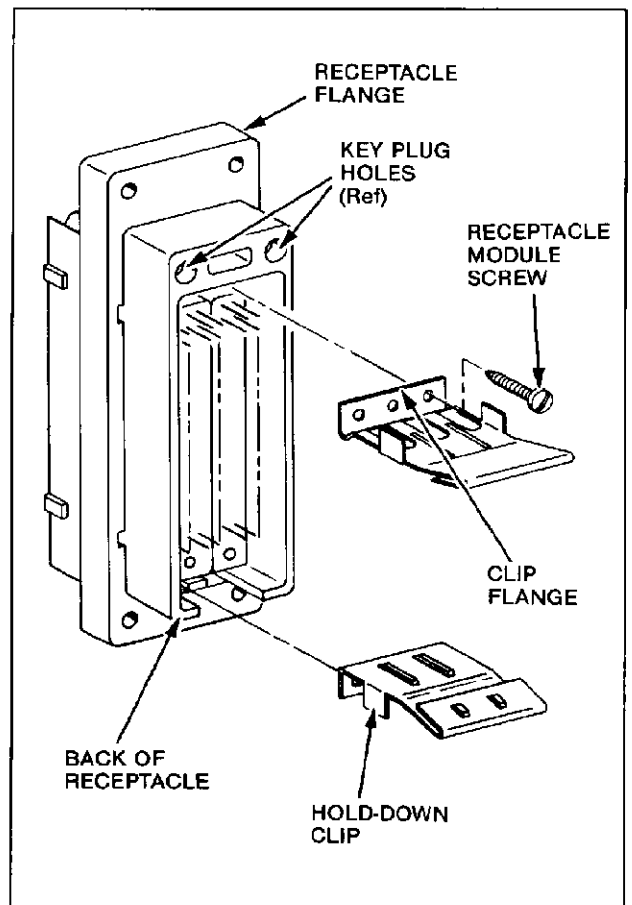

Fig. 5
7. INSTALLING HOLD-DOWN CLIPS (Figure 5)